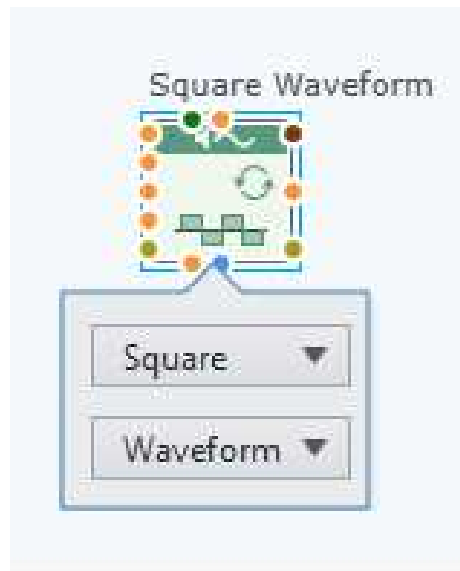

Figure 3.8: Square Wave generator
3. Use “wave generator” block to construct a square wave shown in Fig. 3.8. The wave generator is placed in the following path: Analysis/Signal Processing/Generation/Wave generator.